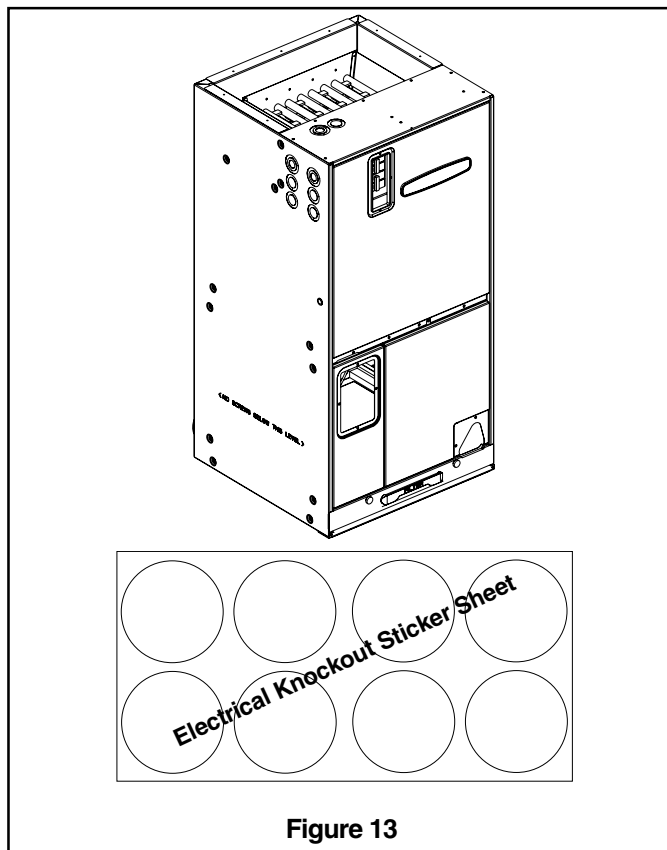

Figure 13
- f. **Openings where field wiring enters the cabinet must be completely sealed.** Location of power entry is shown on the Outline Drawing. Use 2.5" clear stickers provided to seal all unused electrical knockouts. See Figure 13.
Use 2.5" clear stickers provided to seal all unused electrical knockouts. See Figure 13.
- i. **Openings where field wiring enters the cabinet must be completely sealed.** Location of power entry is shown on the outline drawing. Use 2.5" clear stickers provided to seal all unused electrical knockouts. See Figure 13.